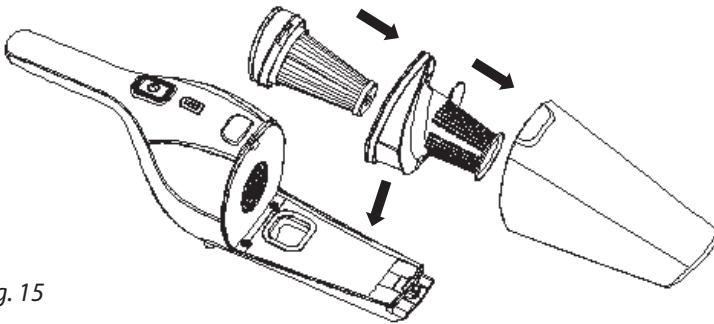

Fig. 15
4. After cleaning the dust cup assembly, please install the HEPA filter into the filter holder firstly and then put them into the dust cup, after it, install the dust cup into the sub-unit (see Fig. 15).